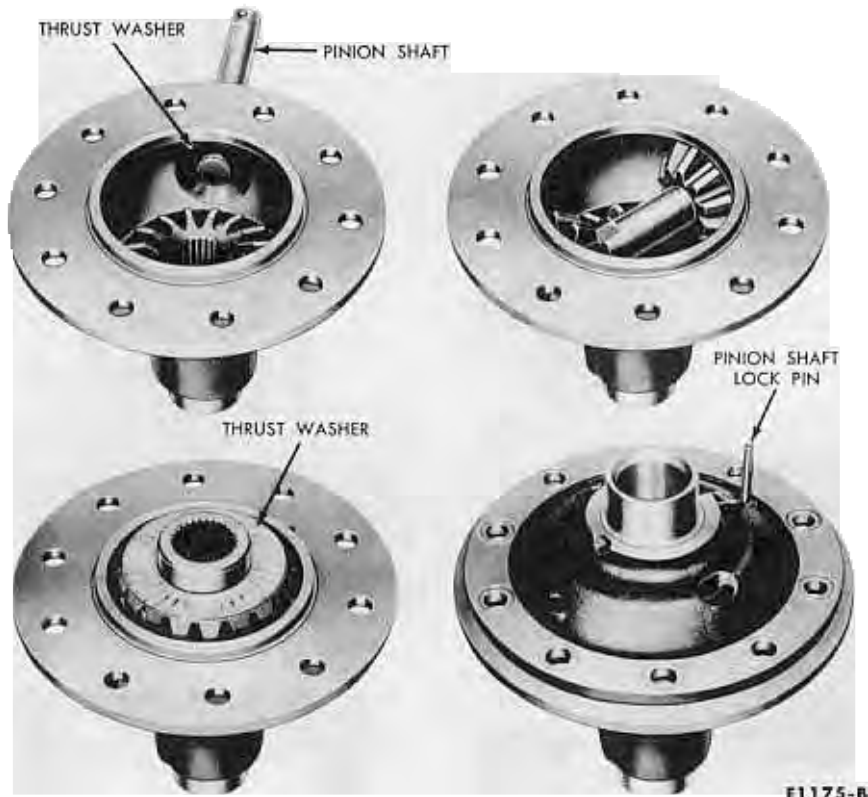

FIG. 34—Assembly of Differential Case
8. Remove the gears and thrust washers. (Fig. 34).